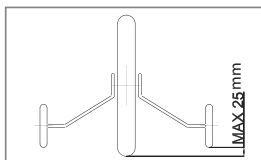

Fig. 74. Minimum clearance of support wheels from the road
1. Remove nuts (4) from the rear wheel.
2. Remove the mudshield bracket (3) (if present), do not remove adjusting handles (1).
3. Install in the order: wheel arms (2), mudshield support (3).
4. Adjust the support wheels so the clearing between the wheels and the ground with a vertically set bicycle was max. 25 mm, Fig. 74. Tighten nuts (4). Tightening torque – 17 Nm.